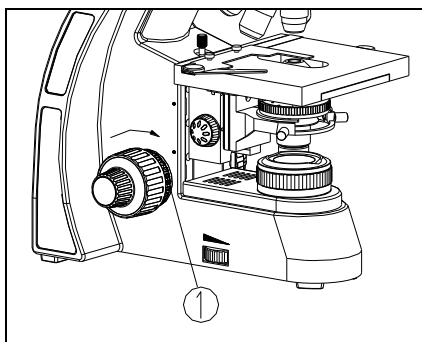

Fig. 12
If the handle is very heavy when focusing or the specimen leaves the focus plane after focusing or the stage declines itself, please adjust the tension adjustment ring (1) (see Fig. 12).